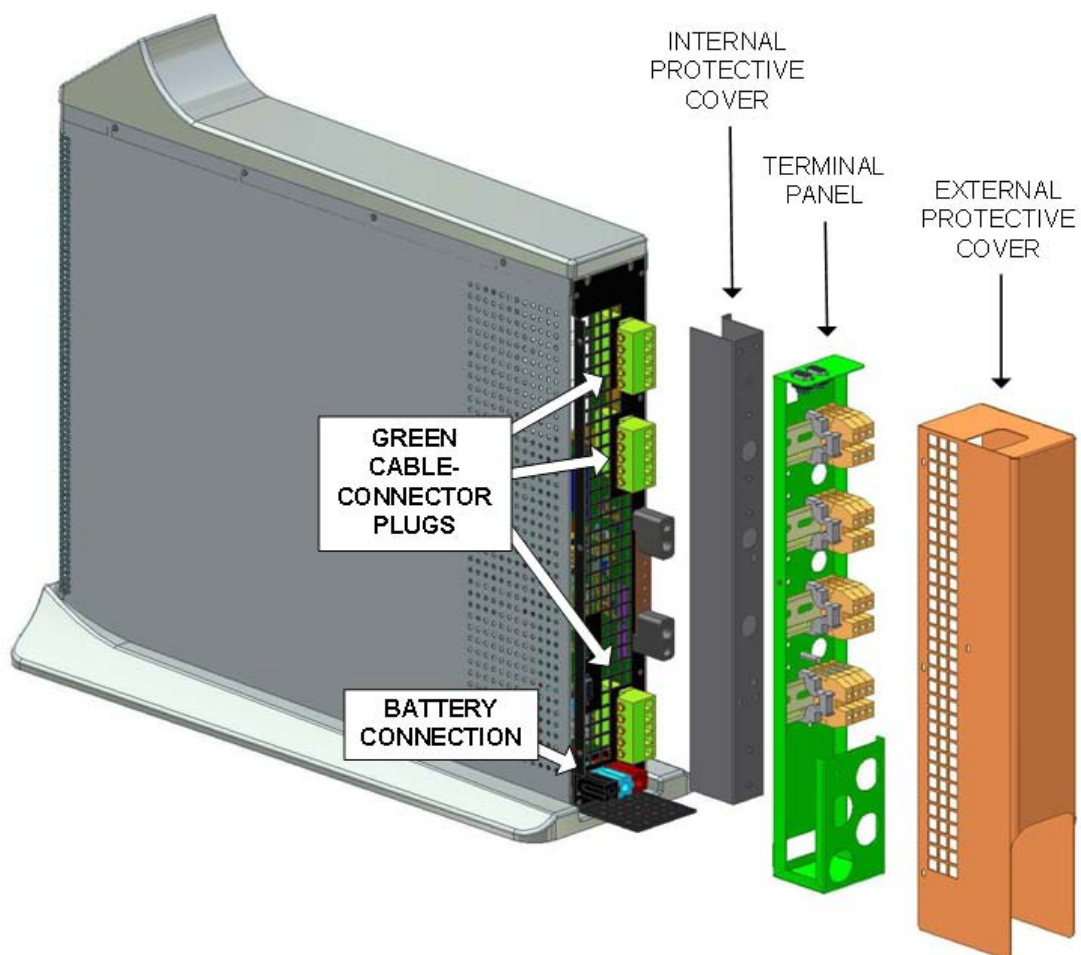
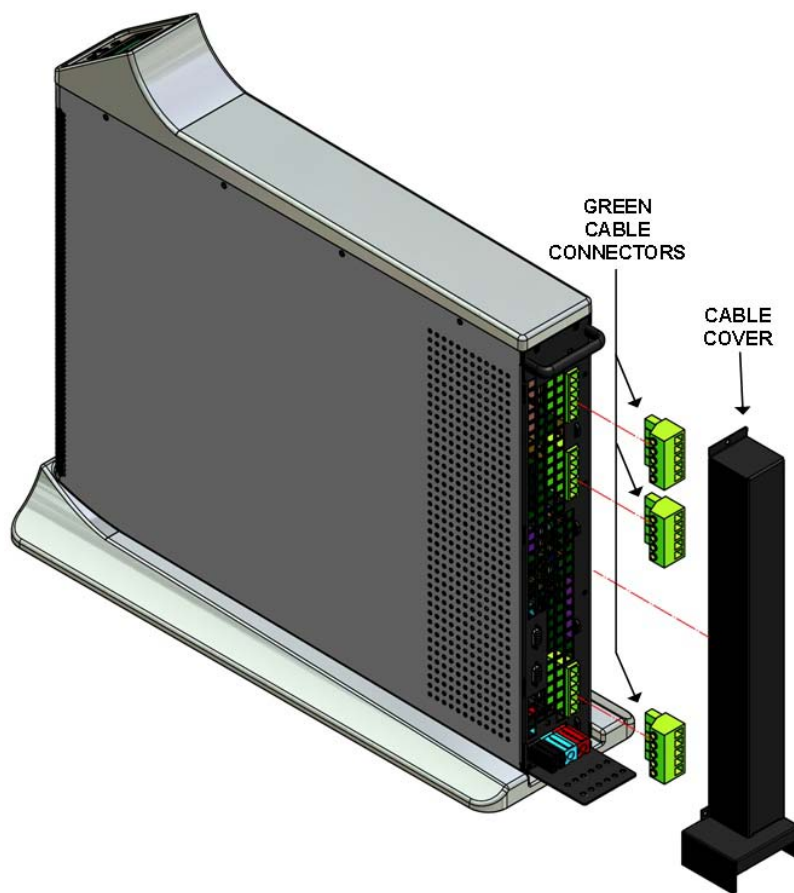

Figure 17: Components of the terminal assembly
Figure 18: Reconfiguring from 3-3 to 3-1
14. Use a screwdriver to remove the external protective cable cover on the rear of the UPS. Refer to Figure 17 or Figure 18 below. (For clarity's sake the electrical cables are not shown in Figure 17 or Figure 18.)
- Remove the terminal assembly from the UPS (refer to Figure 17). The terminal assembly consists of 3 parts: the terminal panel, the black metal internal protective cover behind it, and green connector plugs. The terminal assembly should be removed as a single unit, there is no need to disassemble it into its separate components.Continue with step 0 on page 88.
- Remove the protective cover that protects the green terminal plugs (see Figure 18 on page 85).
- Unplug the green cable-connector plugs from the rear of the UPS. See Figure 18.